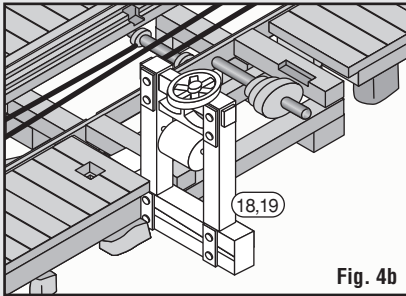

Fig. 4b
- Glue Tension Controller (18,19) onto edge of Mill Track Assembly (Fig. 4b).